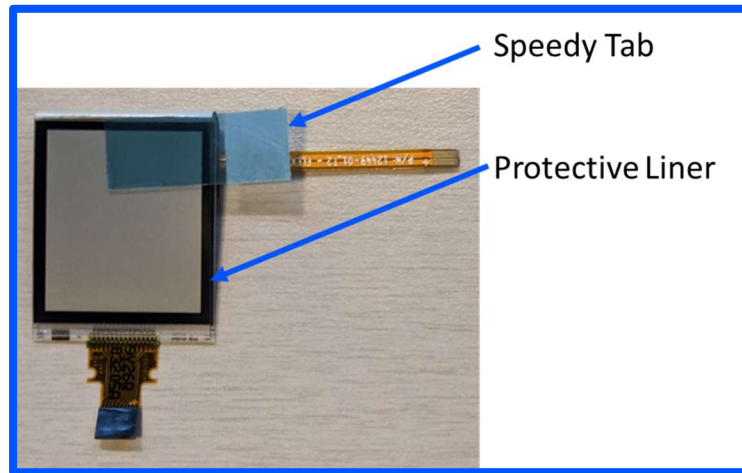

Figure 11. Identification of protective line and speedy tab.
2. The protective liner should remain on the front lit display until its removal is necessary for final installation (refer to Figure 11).